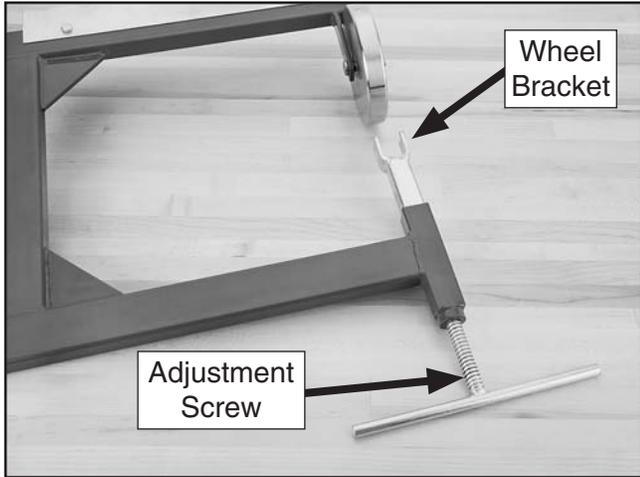

Figure 6. Lower wheel adjustment screw installed.
3. Lay the frame down flat and thread the lower wheel adjustment screw into the frame opposite the wheel bracket (see **Figure 6**).